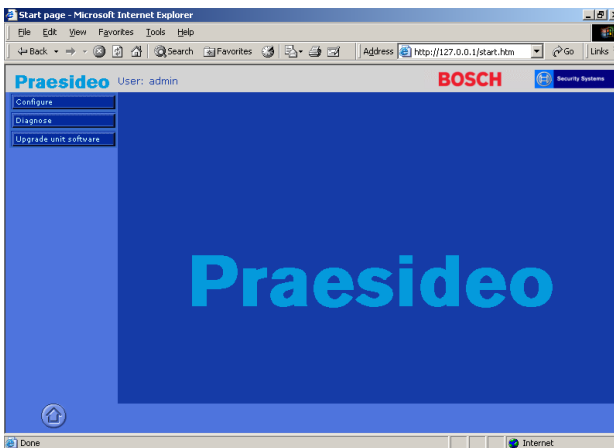

figure 28.10: Web interface start page.
- 5 Enter the user name in the *User Name* field and the password in the *Password* field and click *OK* to open the web interface. A screen similar to the one in figure 28.10 appears.